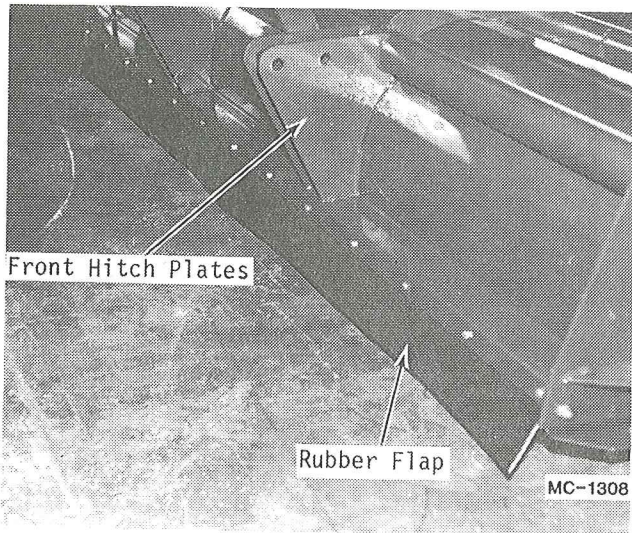

Figure 4
1. Install the rubber flap and retaining strip (already bolted together) on the inside of the front cover. (See Figure 4.)